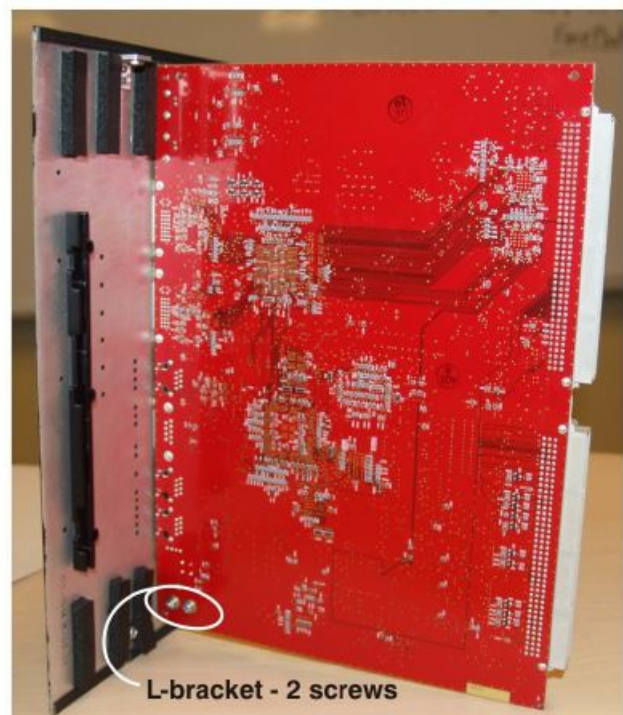

Figure 7 Separate ZX Faceplate from PCM
- Remove the six standoffs (3/16") securing the DVI-D A, DVI-D B and the 'RS-232' B connectors to the faceplate. (Figure 7)
- Using a #1 Phillips, remove the two screws from the L-shaped bracket securing the faceplate to the PCM. (Figure 7)